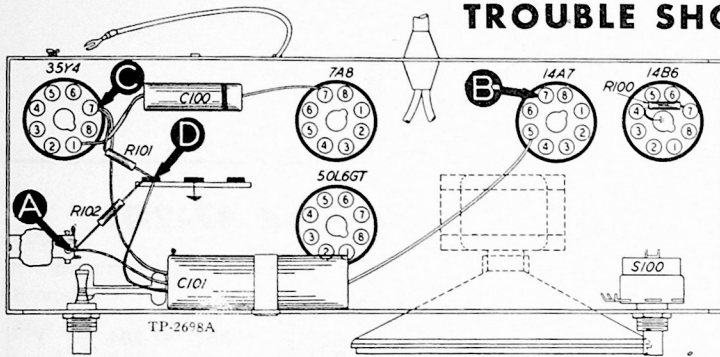

Figure 1. Bottom View, Showing Section 1 Test Points
2. Measure the resistance between B plus and B minus (test points C and B— in figure 1), using the ohmmeter polarity giving the highest resistance reading; if the reading is lower than 50,000 ohms, check C101A, C101B, and C101C, for leakage or shorts.